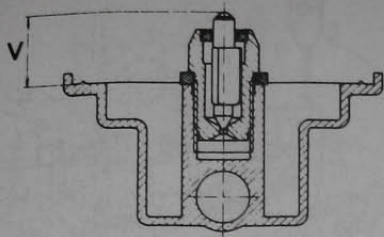

Fig. 3.10 Float height adjustment – Zenith carburettor (Sec 17)
- 9 Measure the distance between the upper face of the needle valve body washer and the end of the needle valve (Fig. 3.10). If the measured dimension is greater than specified, tighten the needle valve body to compress the washer until the dimension is correct. If the measured dimension is less than specified, renew the washer and tighten the needle valve body until the correct dimension is obtained.